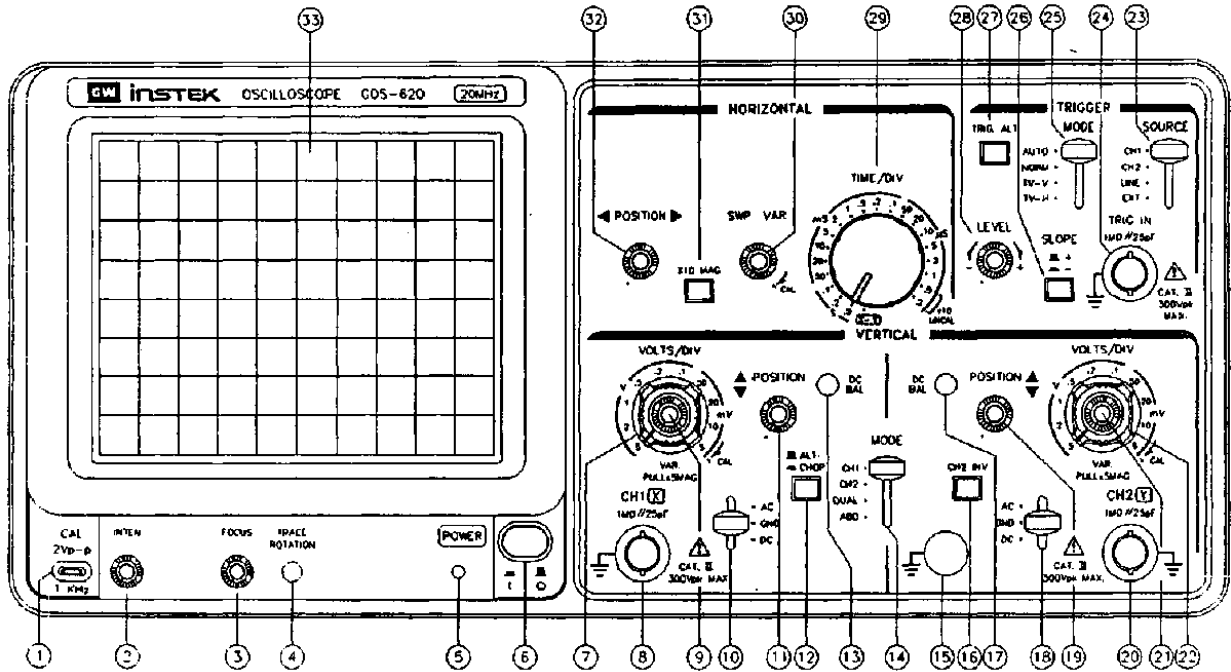

Fig. 4.4. Front panel of the analogue oscilloscope GOS-620
4. Connect the function generator to the CH1 input (⑧ in Fig. 4.4) of the analogue oscilloscope.
- Before start the measurements select the DC position of the input switch (⑩ in Fig. 4.4) and switch on the oscilloscope.
6. Connect the function generator to the CH1 input (⑧ in Fig. 4.4) of the analogue oscilloscope. Set up the shape of signal to sine, the amplitude level to  $U_m = 8$  V, the frequency to  $\nu = 1$  kHz. Adjust the clear and stable image on the oscilloscope display. Change the oscilloscope settings to get the maximum size of displayed image. Draw the adequate oscillogram (waveform) with clearly marked oscilloscope settings [V/DIV] and [s/DIV]. In order to perform oscillogram, use the template available on the website of the laboratory.
8. Connect the function generator to the CH2 input (⑨ in Fig. 4.4) of the analogue oscilloscope. Set up the shape of signal to rectangular, the amplitude level to  $U_m = 2$  V, the frequency to  $\nu = 1$  kHz, the pulse-duty factor to  $W\% = 50$  % and the DC offset level to  $U_{DC} = 1$  V. Adjust the clear and stable image on the oscilloscope display. Change the oscilloscope settings to get the maximum size of displayed image. Draw the adequate oscillogram with clearly marked oscilloscope settings and the following values: peak-to-peak voltage, amplitude level, period, reference level and DC offset level.
10. Connect the function generator to the analogue oscilloscope. Set up the shape of signal to sine, the amplitude level to 6 V and the frequency to 5 kHz. Adjust the clear and stable image on the oscilloscope display. Turn round the horizontal shift knob (32 in Fig. 4.4) to shift the displayed image to the right (left edge is visible). Use the LEVEL knob (28 in Fig. 4.4) to adjust the trigger level and notice the changes of displayed image. Use the SLOPE switch (26 in Fig. 4.4) to change the trigger slope and compare the registered images related to the rising (+) and falling (–) slopes. Draw the proper four oscillograms with clearly marked oscilloscope settings for the following cases: the rising slope for two trigger levels +3 V, –3 V and the falling slope for two trigger levels +3 V, –3 V.
13. Connect the function generator to the both X and Y inputs ( $\textcircled{8}/\textcircled{20}$  in Fig. 4.4) of the analogue oscilloscope (use T junction to divide signal from the output of function generator). Set up the shape of signal to sine and the frequency to 1 kHz. Select the X-Y mode of oscilloscope – (switch 29 in Fig. 4.4). Adjust the gain of X and Y input amplifiers to get the 45° angle of inclination for the observed line segment. Regulate the frequency of generated signal and notice the changes of displayed oscilloscope image. Find out the threshold frequency related to the undesirable phase shift which transforms the observed line segment to an ellipse.
15. Connect the function generator to the CH1 input ( $\textcircled{8}$  in Fig. 4.4) of the analogue oscilloscope. Set up the shape of signal to sine, the amplitude level to 8 V and the frequency to 2 kHz. Check how the amplitude level of generated signal depends on the output attenuator of function generator. Make the measurements for the following attenuation factors: 0 dB, 20 dB, 40 dB and 60 dB (follow instructions from the user manual of function generator). Draw four oscillograms with clearly marked attenuation values and oscilloscope settings. Compare measured results with theory – see Appendix A1.